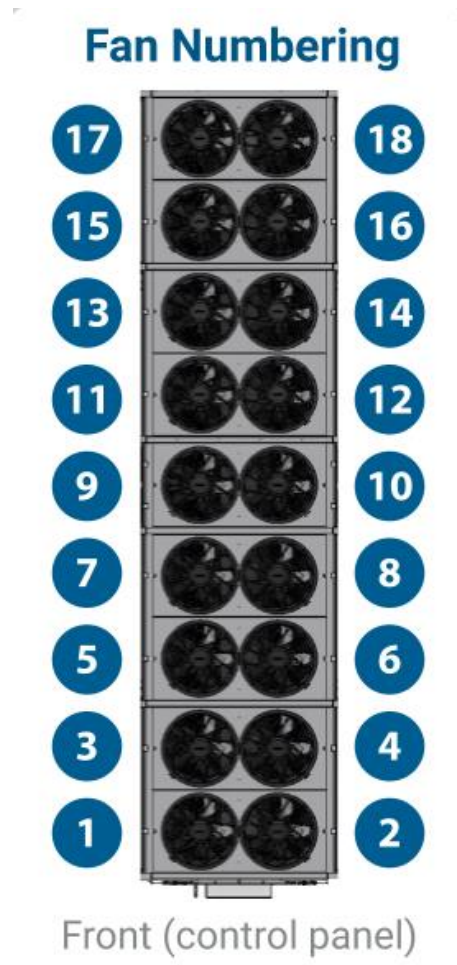

Figure 96. Fan Numbering Plan View
Replacement fans must be readdressed prior to unit operation. Refer to section **BAC Part Number 251299, Fan and Motor Removal & Installation on Page 33** or **BAC Part Number 251317, Fan and Motor Removal & Installation on Page 38** for instructions on removing and installing fans. Each fan needs to be assigned a unique address, starting with “1,2,3,...”. Replacement fans are pre-programmed with a default Modbus address of 247. Only one new fan can be readdressed at a time. If replacing multiple fans at a time, start with the fan closest to the control panel on the right side, Fan 2 in **Figure 96**. To address a newly installed fan:
3. Use the dropdown menu titled “Select Fan to Replace” to select the correct fan number. Refer to **Figure 96** to identify the correct fan number.